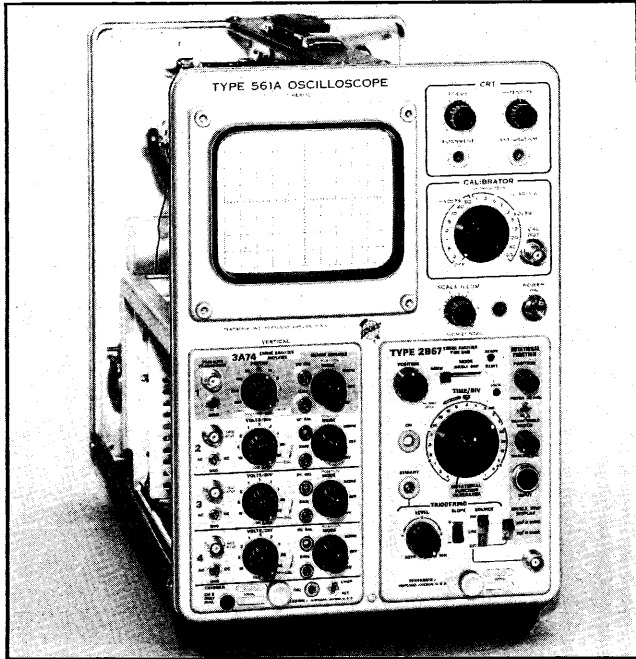

Fig. 5-5. Equipment arrangement for steps 2 through 6.
a. The preliminary control setup applies. The equipment arrangement appears in Fig. 5-5.